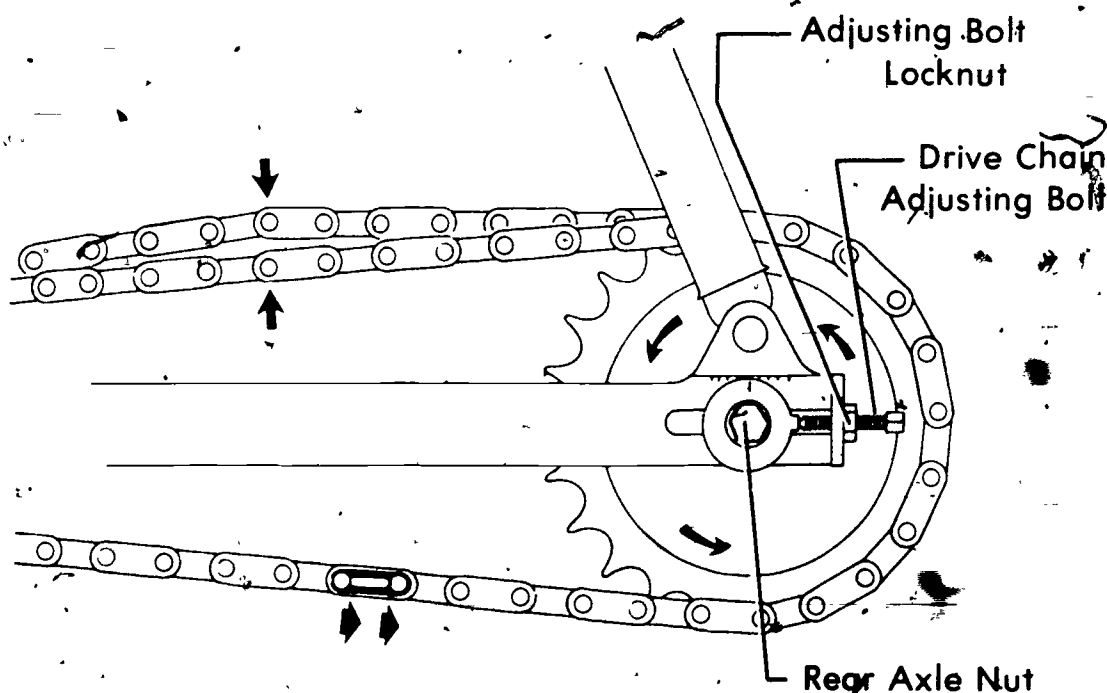

FIGURE 1
- A. Loosen rear axle nut, adjusting bolt locknuts, and adjusting bolts (Figure 1)